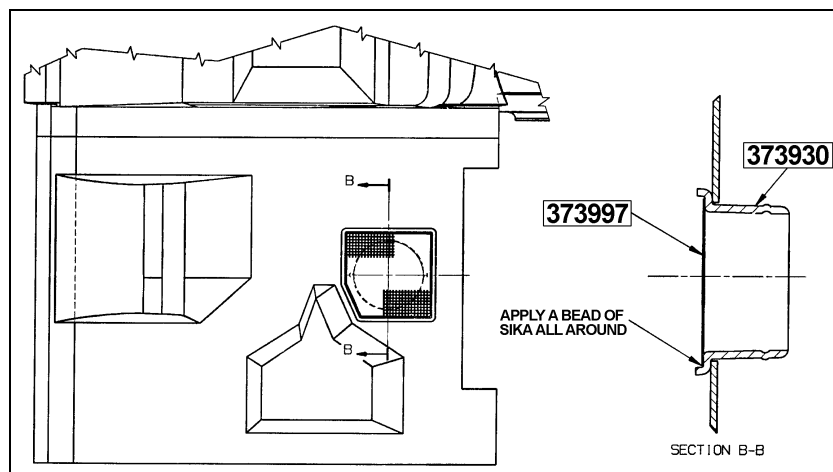

FIGURE 3
7. Fix mounting flange using rivets and fix screen (373997) using Sika 221 black (refer to figure 3).